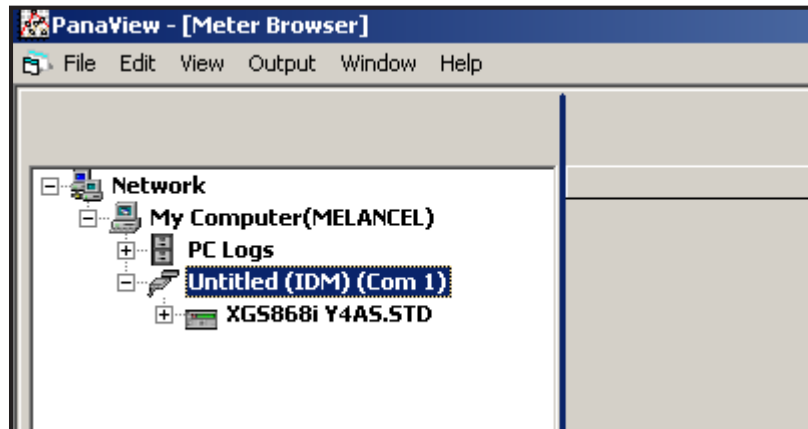
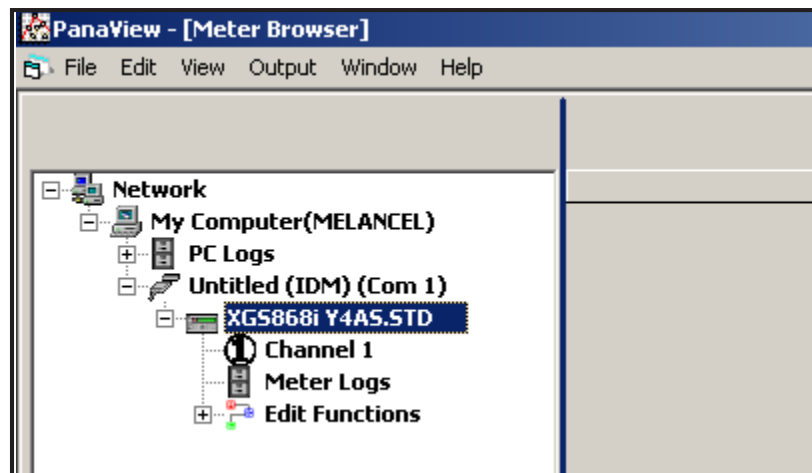

Figure 37: The Updated Network Tree
Figure 39: Meter Tree with *Edit Functions* Option
If the initialization is successful, the *Meter Browser* shows a listing similar to Figure 37.
1. From the meter tree in the *New Meter Browser* (shown in Figure 37 on page 93), click on the XGS entry. The screen now appears similar to Figure 39.